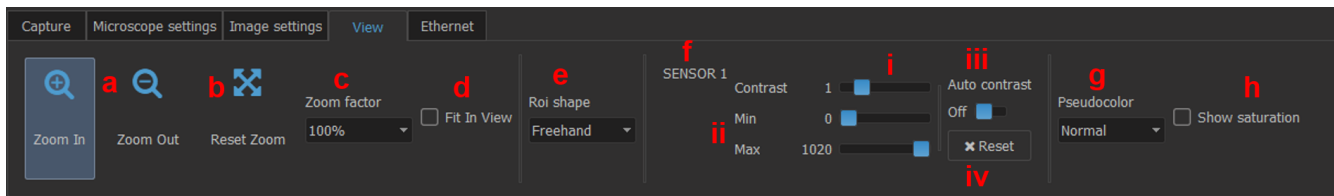

Figure 3.24: View Tab
- a) The **Zoom In/Zoom Out** buttons (Fig. 3.24) will increase/decrease the zoom of the sensor image.
- b) The **Reset Zoom** button (Fig. 3.24) will reset the **Zoom factor** to 100%.
- c) The **Zoom Factor** drop-down list (Fig. 3.24) allows the selection of a zoom factor from a pre-set list. The box will also display the current zoom if it was changed using different buttons.
- d) The **Fit In View** button (Fig. 3.24) resize the image to fit the size of the Image Viewer box.
- e) The **Roi shape** drop-down list (Fig. 3.24) allows the selection of the shape used when drawing a **Region Of Interest** onto a sensor image. These shapes include **Freehand, Circle, Rectangle** and **Square**.
- f) The **SENSOR** section (Fig. 3.24) is used to adjust contrast on a given sensor. When a microscope used has multiple sensors, multiple **SENSOR** sections will be displayed, one for each sensor.
- i. The **Contrast** slider (Fig. 3.24) allows the adjustment of contrast from 0.1 to 5.
- ii. The **Min/Max** sliders (Fig. 3.24) indicate the minimum/maximum number of counts displayed. Should the **Min** be above 0, all pixels with lower count will display a minimal value. Should the **Max** be below 1020, all pixels with a higher count will appear saturated.
- iii. The **Auto contrast** slider button (Fig. 3.24) will active an automatic contrast adjustment algorithm.
- g) The **Pseudocolor** drop-down list (Fig. 3.24) allow the sensor image color palette to be changed.
- h) The **Show saturation** checkbox (Fig. 3.24) allows all saturation on the sensor image to be displayed in red. This function is only available if no pseudocolor is selected.